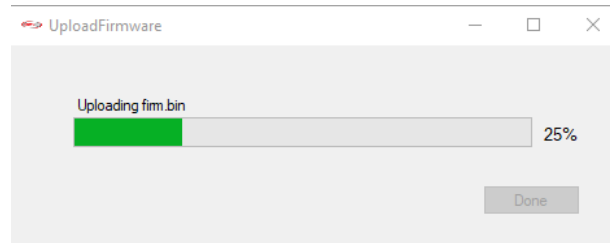

**Figure 50. System Check**
- **System Check:** before any deployment test it is strongly recommended to undergo a functionality test to ensure that the various components are working as intended. Figure 50 shows an example of the test result. The warning information is in Yellow and any information in Red means something wrong with that component and needs attention.